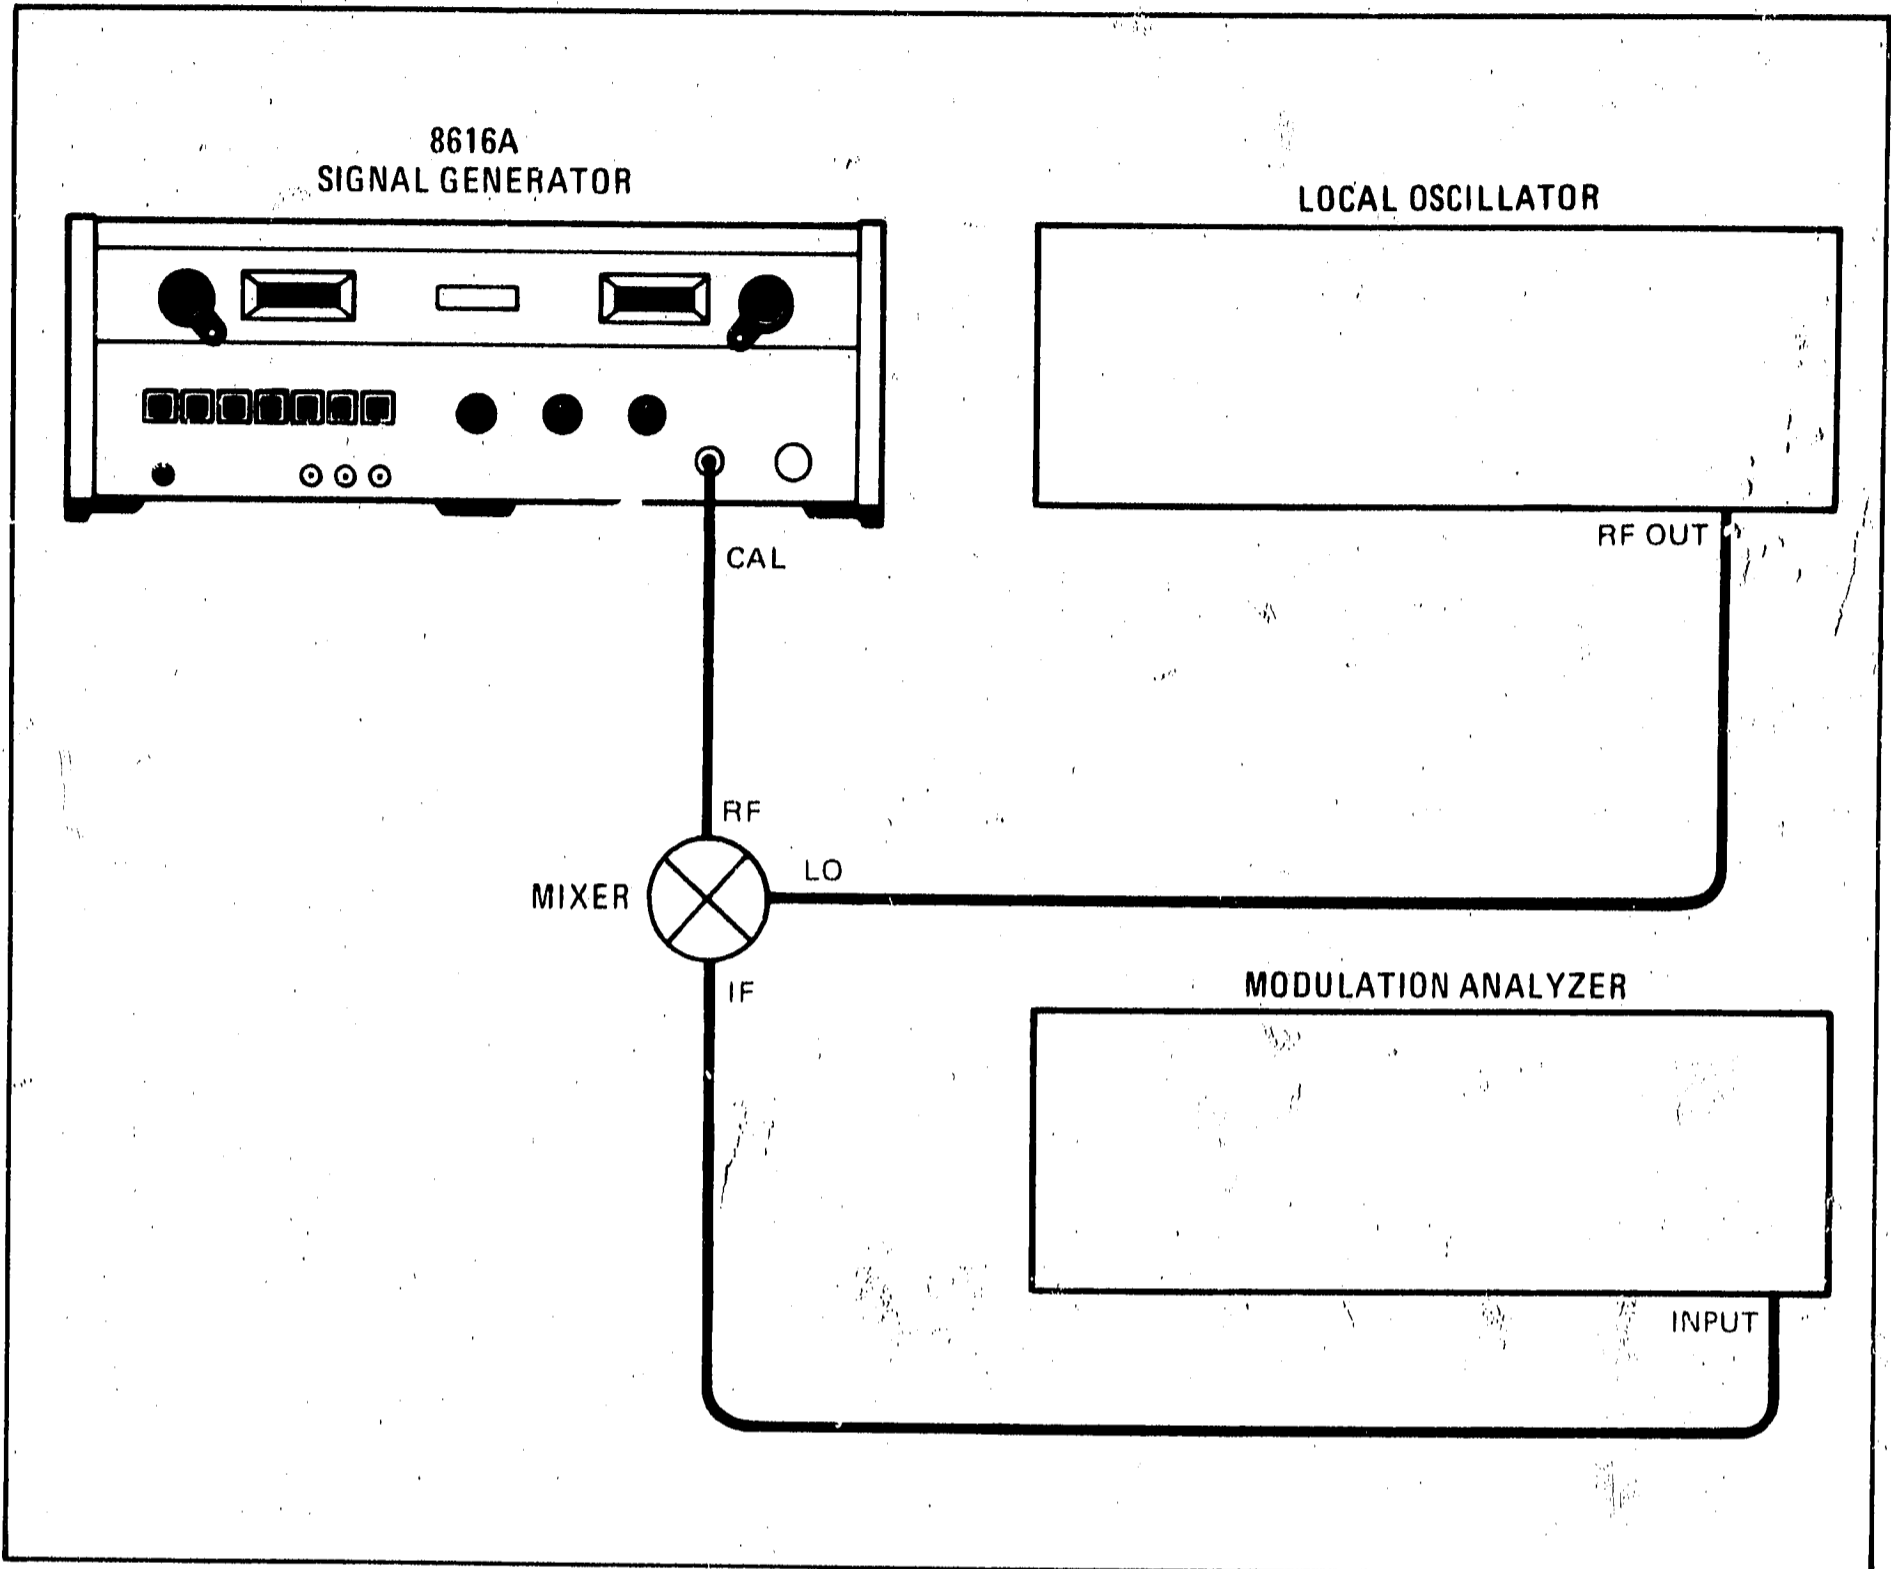

Figure 5-12. Residual and Incidental FM Check
a. Connect equipment as shown in Figure 5-12.